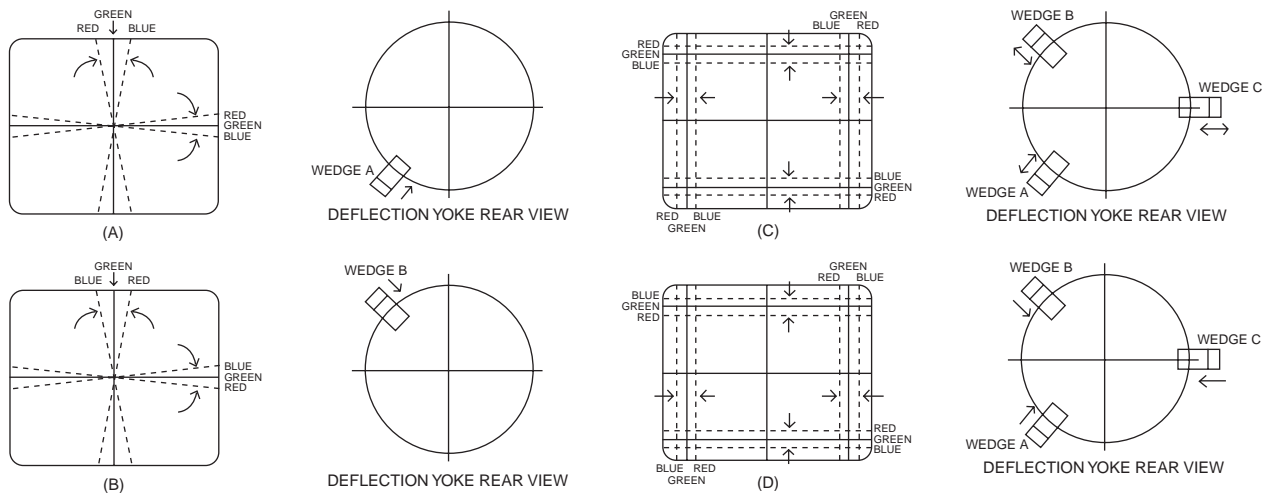

Fig. 5
DYNAMIC CONVERGENCE ADJUSTMENT (Refer to Fig. 5)
3. For the misconvergence shown in Fig. 5 (A), tilt the deflection yoke down and insert wedge A between deflection yoke and CRT.
4. For the misconvergence shown in Fig. 5 (B), tilt the deflection yoke up and insert wedge B between deflection yoke and CRT.
5. For the misconvergence shown in Fig. 5 (C), tilt left side of the deflection yoke and slightly insert wedge C between deflection yoke and CRT. Then, deeply insert wedges A and B between deflection yoke and CRT.
6. For the misconvergence shown in Fig. 5 (D), tilt right side of the deflection yoke and deeply insert wedge C between deflection yoke and CRT. Then, slightly insert and/or extract wedges A and B between deflection yoke and CRT.